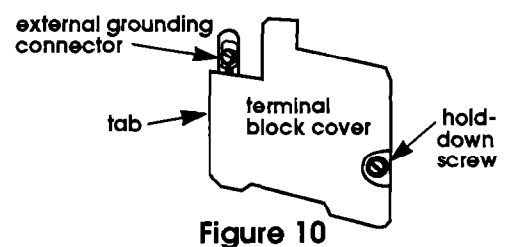

Figure 10
7. Insert tab of terminal block cover into slot of the dryer rear panel (See Figure 10). Secure cover with hold-down screw.